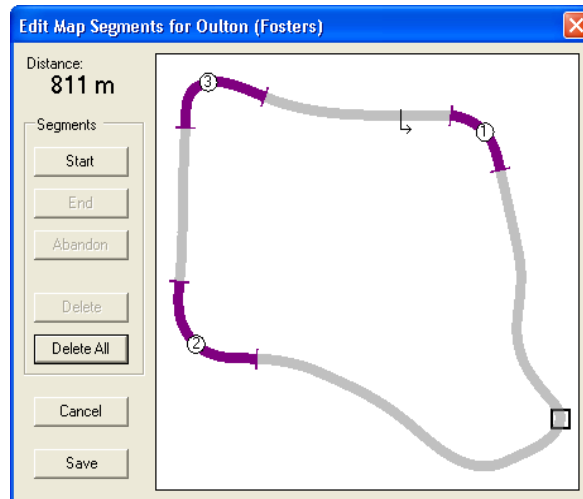

Figure 24 - Edit Map Segments Dialog (Segment Deleted)
4. Click **Delete**. The segment is removed from the map (see Figure 24).